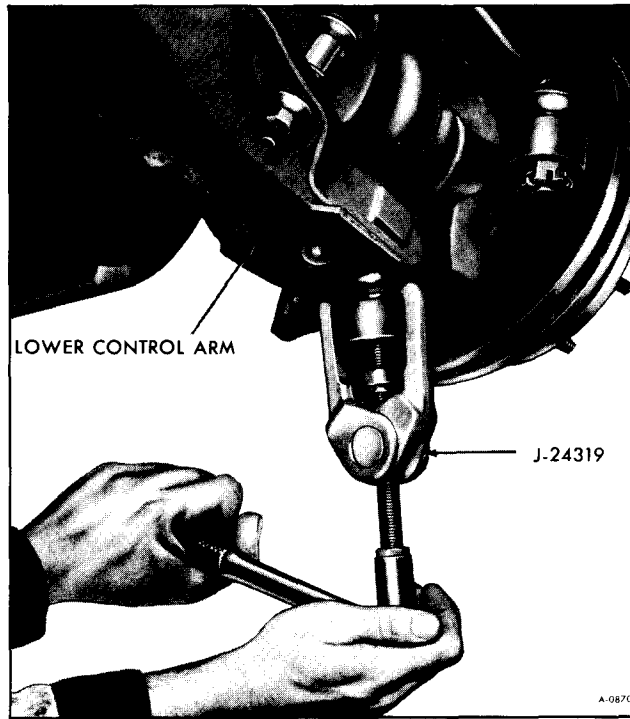

Figure 15—Removing Lower Ball Joint
8. Using Tool J-24319, remove lower ball joint from knuckle (figure 15).
9. Install Tool J-24319 and remove ball joint stud from knuckle. (figure 15)